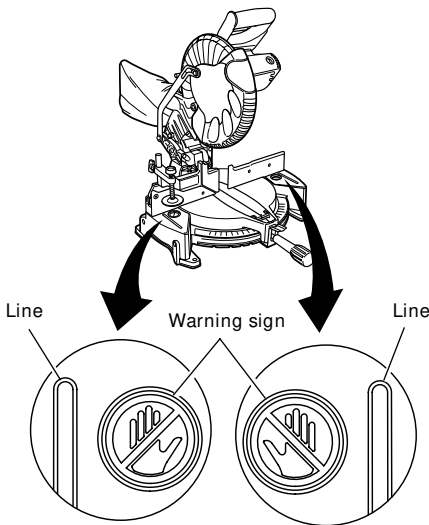

Fig. 5
- Never place your limbs inside of the line next to warning sign while the tool is being operated. This may cause hazardous conditions (see **Fig. 5**).